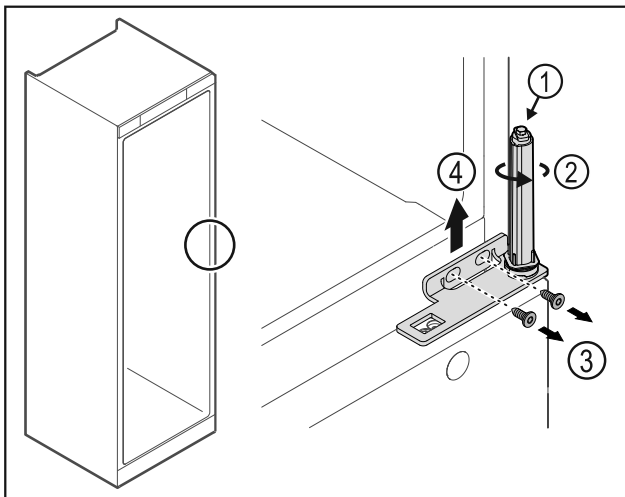

Fig. 33
- ▶ Do not disassemble the door closing system Fig. 33 (1).
- ▶ Turn the closing system Fig. 33 (2) until it clicks.
- ▶ Loosen the screws Fig. 33 (3) and lift off the hinge Fig. 33 (4).